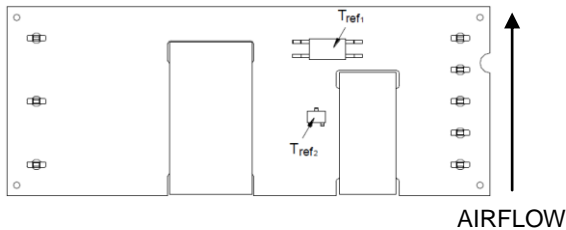

Figure 13.  $T_{ref1}$  &  $T_{ref2}$  Temperature Measurement Locations for Open Frame Module.
To provide protection under certain fault temperature conditions, the unit is equipped with a thermal shutdown circuit. The unit will shutdown if any of the thermal reference points identified in Figures 13 & 14, exceed the stated trip points (typical). However, the thermal shutdown is not intended as a guarantee that the unit will survive temperatures beyond its rating. The module can be restarted by cycling the dc input power for at least one second or by toggling the remote on/off signal for at least one second. If the auto-restart option (4) is ordered, the module will automatically restart upon cool-down to a safe temperature.
The thermal reference points,  $T_{ref1}$  and  $T_{ref2}$ , used in the specifications for open frame modules are shown in Figure 13. For reliable operation these temperatures should not exceed 110°C and 125°C respectively.